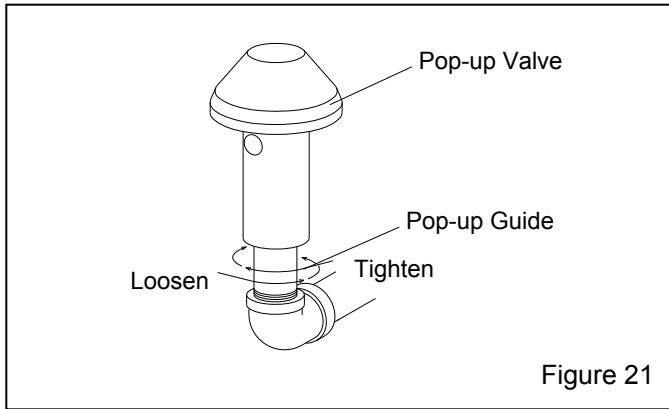

Figure 21
6.10 Replacing the Pop-Up Valve, Figure 21